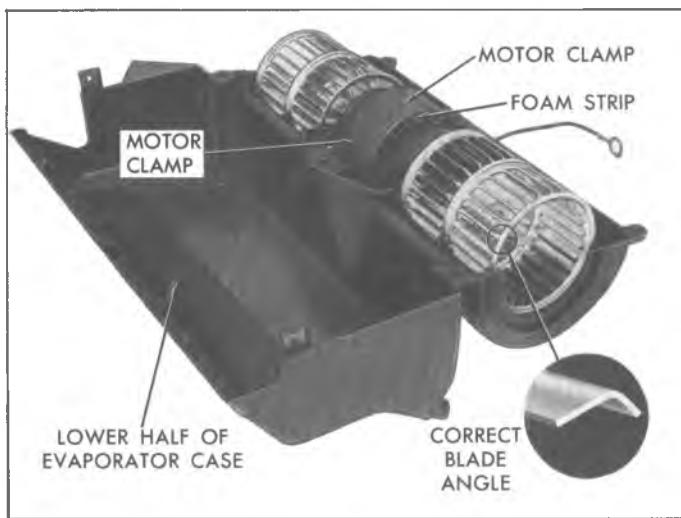

Fig. 74-Blower Motor (C-K Overhead System)
- CAUTION:** Be sure that the blower wheels are installed as shown in Figure 74.